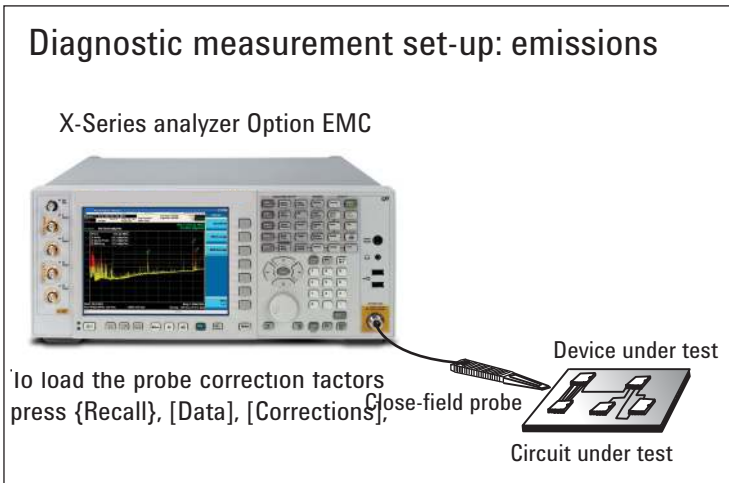

Figure 13. Diagnostics setup interconnection
1. Connect the diagnostic tools as shown in Figure 13.